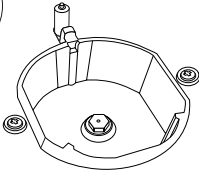

Figure-9
2. Please remove nozzle (Figure -9) from burner with special nozzle driver and install new nozzle (Figure -10)